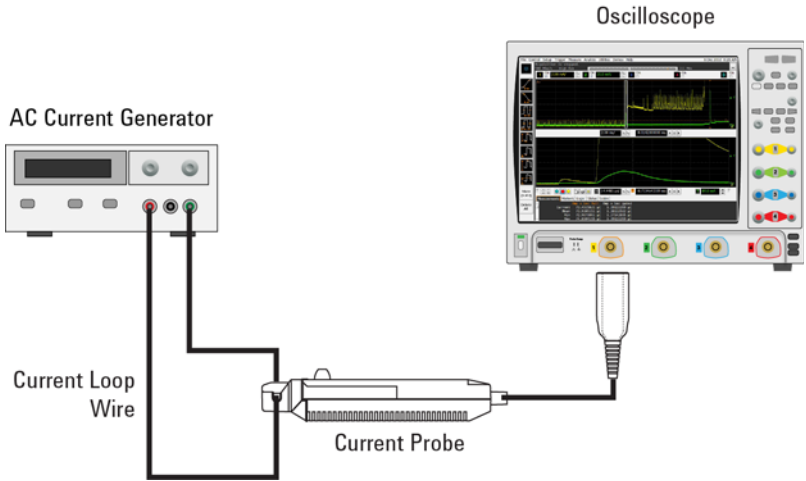

Figure 6 Sensor Head Clamped to Wire
- 6 Clamp the wire with the 1147B and lock the sensor head as shown in Figure 6 on page 18.